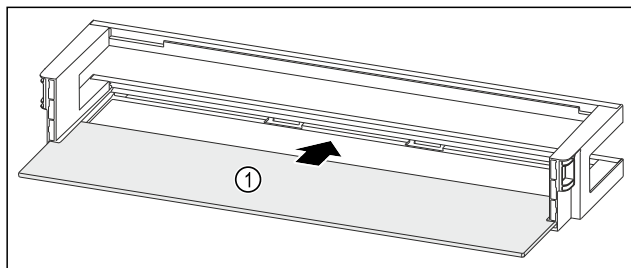

Fig. 81 Door racks with shelf
- Push the shelf Fig. 81 (1) into the side cutouts.